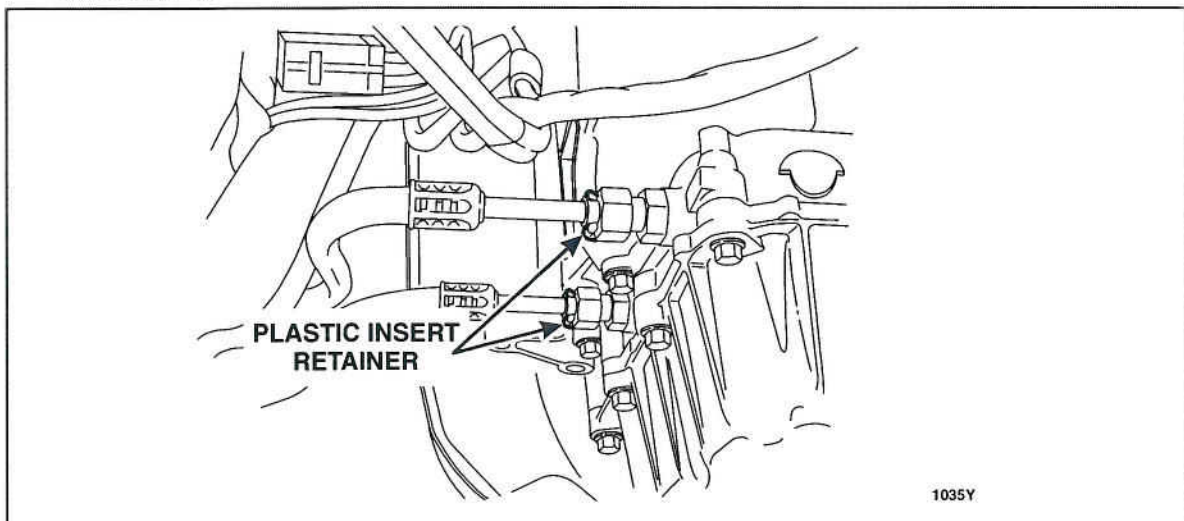

FIGURE 19
43. Depress the tabs on the plastic insert retainer and remove the cooler lines from the fittings. See Figure 19.
17. Connect the fluid cooler tubes. See Figure 19.